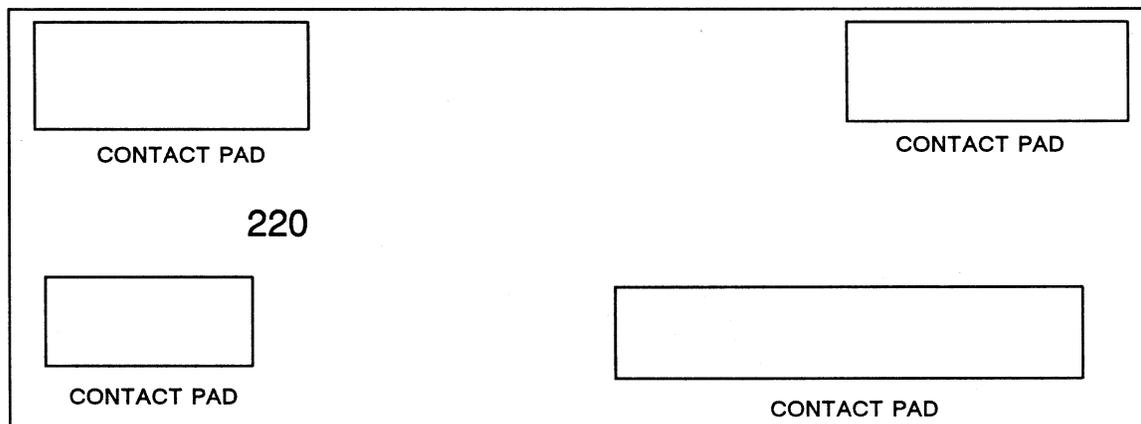

Figure 2-7. Model 30M 220 VAC Voltage Selection through PCB
- For 230 VAC operation keep this side of the PCB up and rotate it 180 degrees so that the legend 220 is on the left side and right-side up. See Figure 2-7.